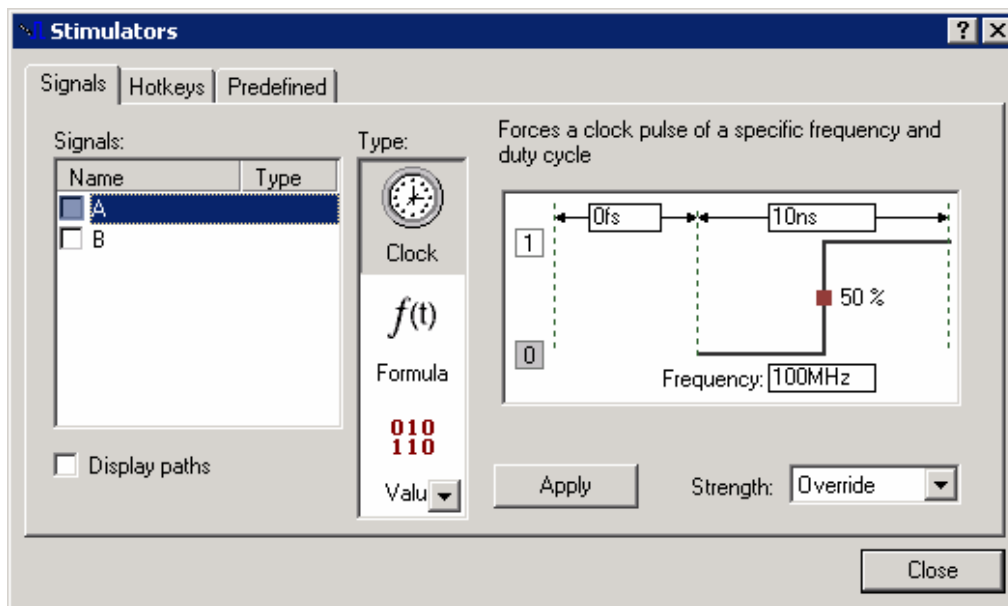

Figure 31
13. With the Stimulators window still opened, you can set additional signals by clicking the signals in the left side of the waveform. Once you have added the two input signals (i.e. A and B), choose a clock period of 10 ns for A by entering the time in second box from the left at the top of the window (see Figure 31). Click the Apply button.